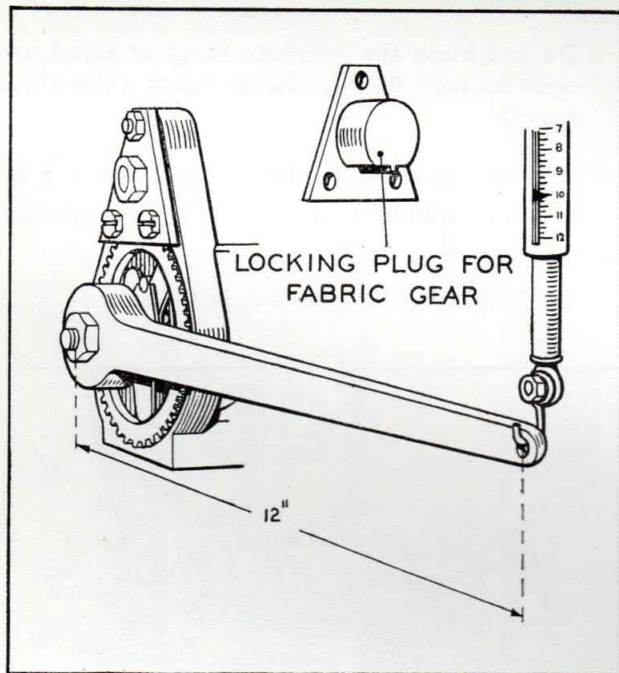

Fig. 6
- (iii) Check the drive slip-setting, as shown in Fig. 6. With the gear locked, the drive should slip when a torque of 4-10 lb.-ft. is applied through a 12in.